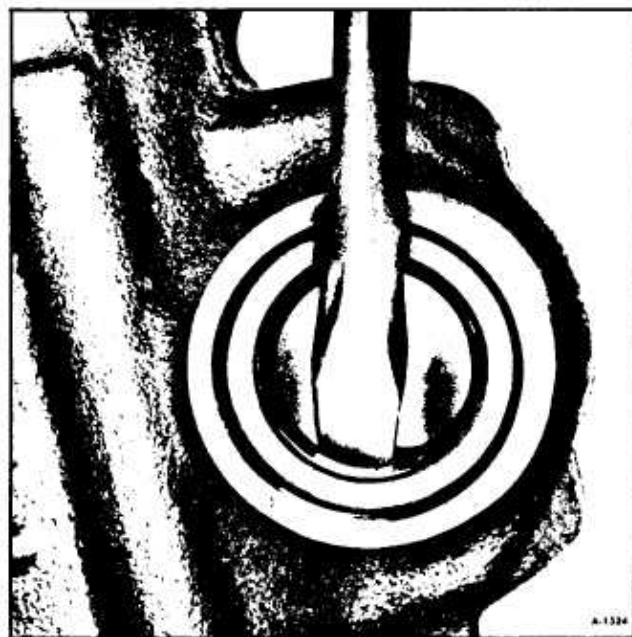

Figure 42—Prying Out Inner Seal
1. If pitman shaft seals ONLY are to be replaced, remove the seal retaining ring with Internal Pliers J-4245 and remove back-up washer. Using screw driver under lip of seal pry out the outer seal. Remove the back-up washer, then pry out the inner seal (figure 42). Discard seals.